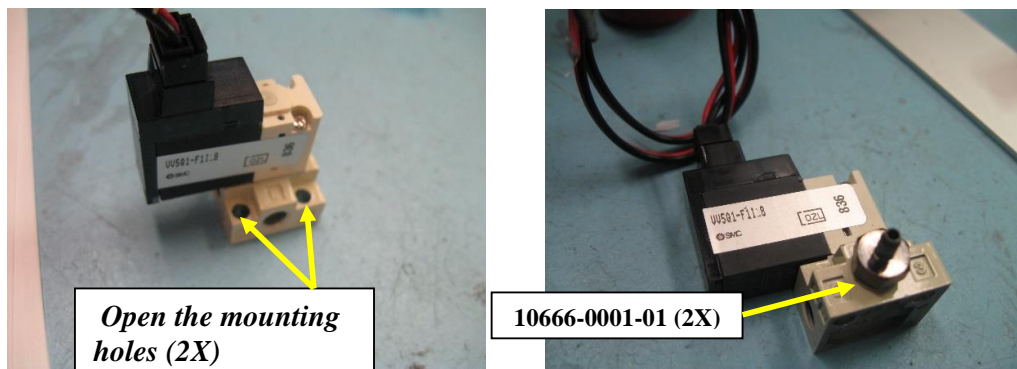

Figure 5
- 1.9. Drill out the mounting holes on both 3-way SMC Valve (10667-0002-01) bases to accommodate a 4-40 screw (1/8" drill). See Figure 5 Left.
- 1.10. Install an (1) Air Fitting (10666-0001-01) into both of the 3-way SMC Valves at port E. (Figure 5 Right). Tighten the fitting using a wrench.